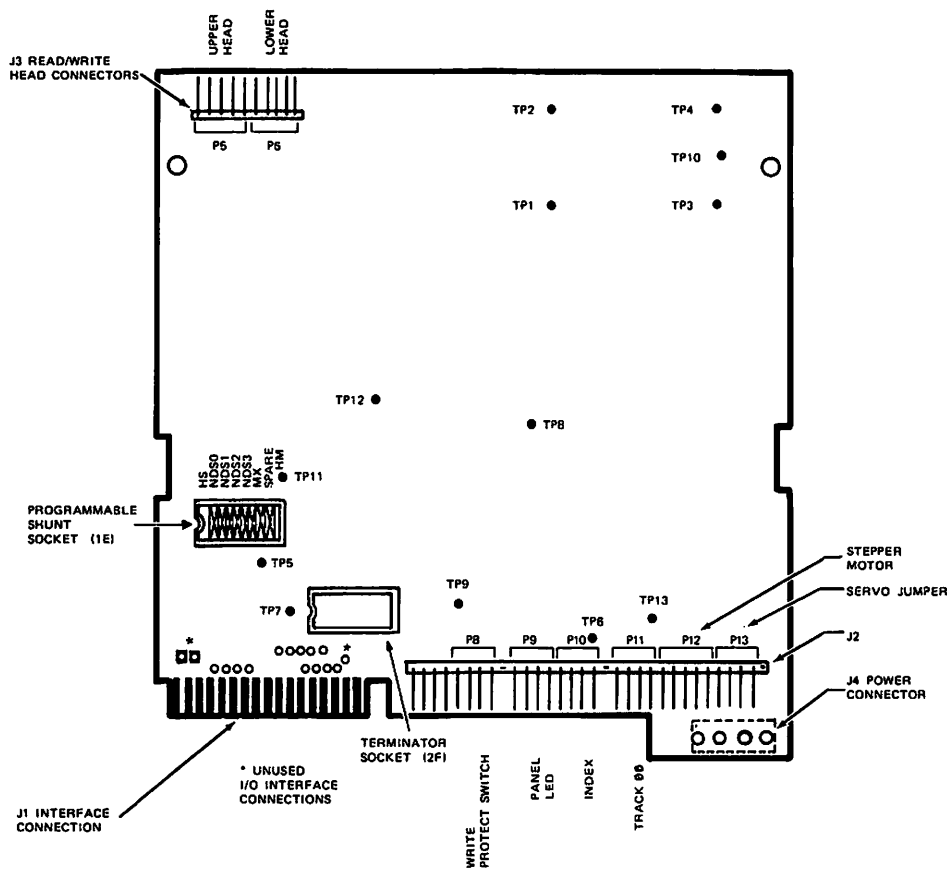

Figure 1-6
These input lines are terminated through a 150 ohm resistor pack that is installed in the dip socket located at IC location 2F. In a single-drive system, this resistor pack should be kept in place to provide the proper terminations. In a multiple-drive system (Program Shunt position MX open), only the last drive on the interface is to be terminated. All other drives on the interface must have the resistor pack removed (see Figure 1-6).
The disk drive address is determined by a Select Shunt on the PCBA. Select lines zero-through-three (0-3) provide a means of daisy chaining a maximum of four (4) disk drives to a controller. Only one (1) line can be true (low) at a time. An undefined operation might result if two or more units are assigned the same address or if two or more Select lines are in the true (low) state simultaneously (see Figure 1-6).